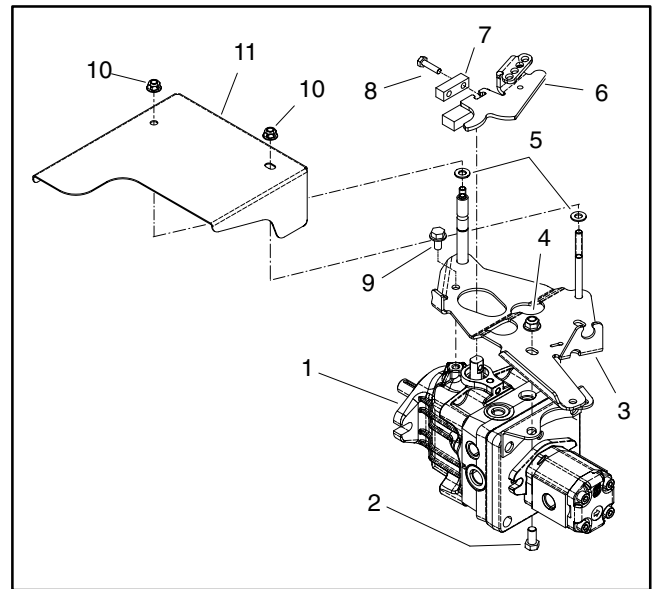

Figure 32
3. Loosen the flange head screw (item 7) and flange nut (item 11) that secure the drive belt idler pulley (item 10). Lift idler pulley to allow removal of drive belt from the hydraulic pump pulley.
4. Loosen two (2) set screws that secure pump pulley to the hydraulic pump shaft. Slide pulley from the pump shaft. Locate and remove key from pump shaft.
5. Remove two (2) lock nuts that secure pump shield to pump (Fig. 32). Remove shield from pump. Locate and retrieve two (2) flat washers from tops of studs on pump control assembly.
6. Disconnect hydraulic pump controls (Fig. 32 and 33) from the pump as follows:
B. Loosen two (2) socket head screws (item 8, Fig. 32) that secure pump lever to pump trunnion shaft.
C. Remove two (2) cap screws with flange nuts (items 2 and 4, Fig. 32) and washer head screw (item 9, Fig. 32) that secures control bracket to hydraulic pump.
2. Position hydraulic pump assembly to the frame pump support. Secure pump to the pump support with two (2) flange head screws and flange nuts.
4. Apply Loctite 242 (or equivalent) to pulley set screws and secure pulley to pump shaft with two (2) set screws.
6. Install hydraulic pump controls (Fig. 32 and 33) to the pump as follows:
B. Secure control bracket to hydraulic pump with two (2) cap screws with flange nuts and washer head screw.
C. Secure pump lever to pump trunnion shaft with two (2) socket head screws.
7. Place two (2) flat washers to tops of studs on pump control assembly. Position pump shield to pump and secure with two (2) lock nuts.